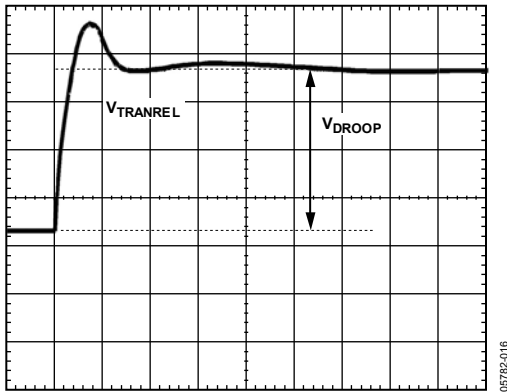

Figure 30. Transient Setting Waveform, Load Release
21. For load release (see Figure 30), if $V_{TRANREL}$ is larger than the IMVP-6 specification, there is not enough output capacitance. Either more capacitance is needed or the inductor values needed to be smaller. If the inductors are changed, then start the design over using Equation 1 to Equation 39 and this tuning guide.